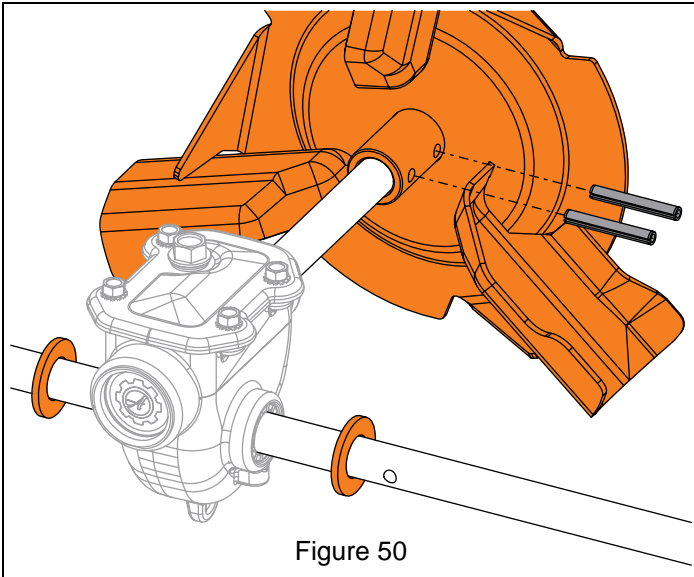

Figure 50
3. Remove augers. See *Remove Auger* on page 21. See Figure 50.